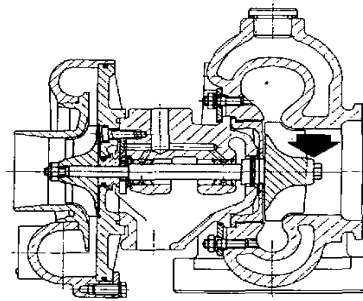

Fig. 211. Measuring position (radial clearance), KKK
1. Place a rocking arm dial indicator with its measuring point on the turbine rotor hub as shown in fig. 211.